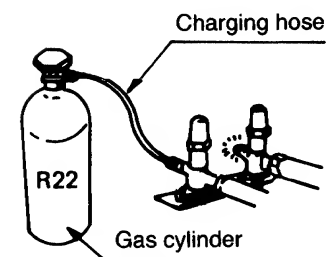

Fig. 12
- a) Connect refrigerant charging cylinder to narrow pipe service valve, and open the valve of the charging cylinder. Fig. 12.